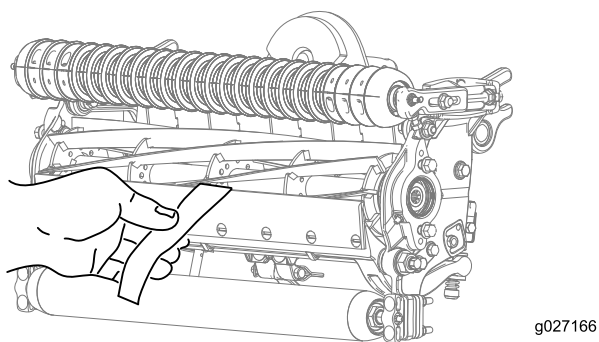

Figure 10
10. Test the cutting performance by inserting a long strip of cutting performance paper (Toro Part No. 125-5610) between the reel and the bedknife, perpendicular to the bedknife (Figure 10). **Slowly** rotate the reel forward; it should cut the paper.